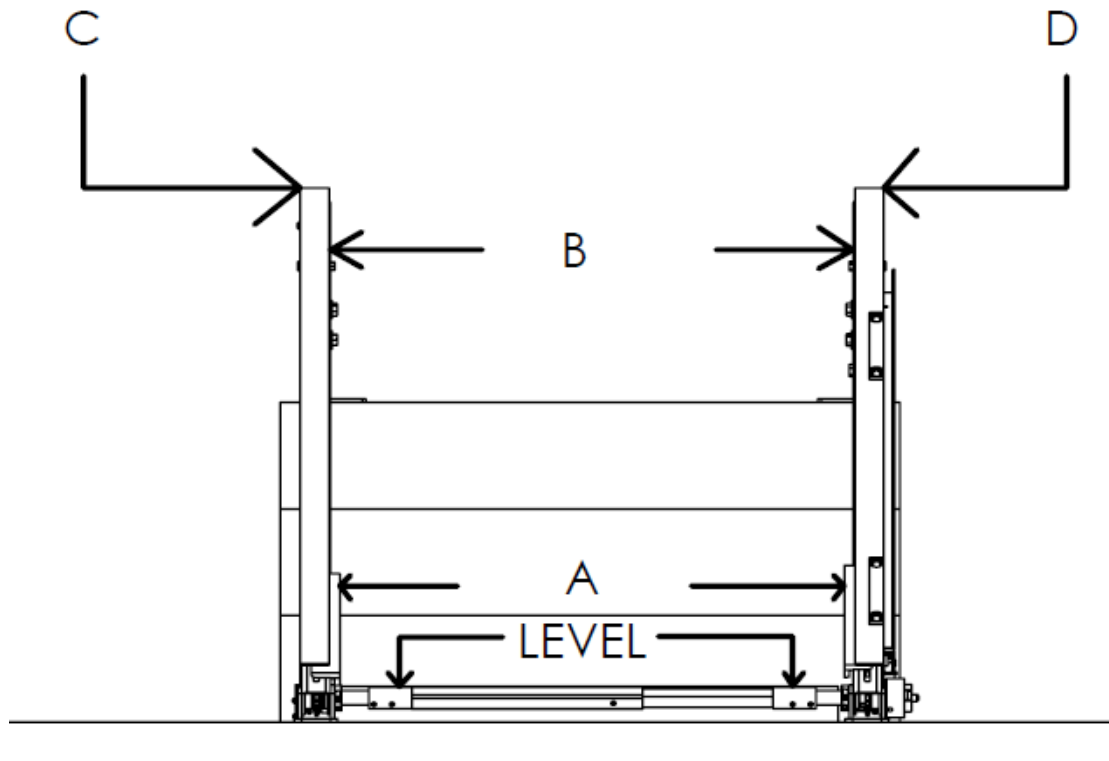

Figure 5: Rail Alignment
- Verify that the left-right placement of the rails is correct. Measure the distance between the two guide rails directly above the drive shafts and coupling and set the spacing of the two rails at the top landing to the same distance (dimensions A and B in Figure 5).
- Use shims under the feet and adjust the legs as required to make the rails parallel and level to each other (C should be level with D in Figure 5). Place a level on the axle and shim the feet as needed to make it level.